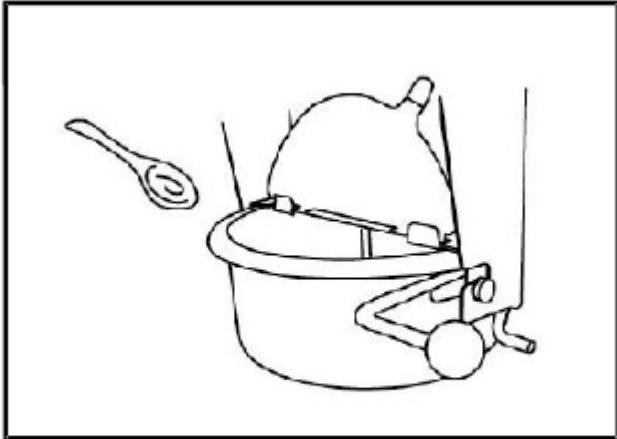

Fig. 1
4. Turn the **Light** switch (III) to **ON**. Turn the **Pop** switch (II) to **ON** and add a suitable amount of butter or oil (Fig. 1). While the amount is dependent upon your taste, please do not exceed 1/2oz..